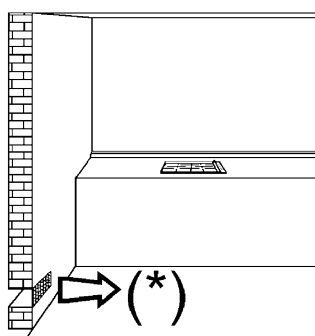
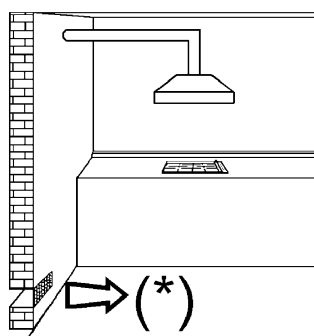
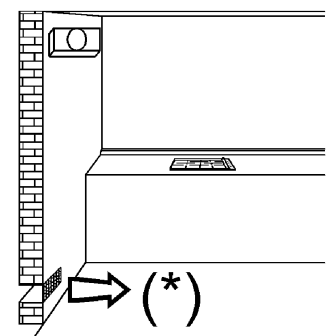

FIG. 3
FIG. 4
FIG. 5
- **use of a gas cooking appliance produces heat and moisture in the room in which it is installed. The room must therefore be well ventilated by keeping the natural air vents clear (see fig. 3) and by activating the mechanical aeration device (suction hood or electric fan fig. 4 and fig. 5).**
Gas cooking appliances must always dispose of their combustion fumes through hoods. These must be connected to flues, chimneys or straight outside. If it is not possible to install a hood, an electric fan can be installed on a window or on a wall facing outside (see fig. 4). This must be activated at the same time as the appliance (see fig. 5), so long as the specifications in the provisions in force are strictly complied with.